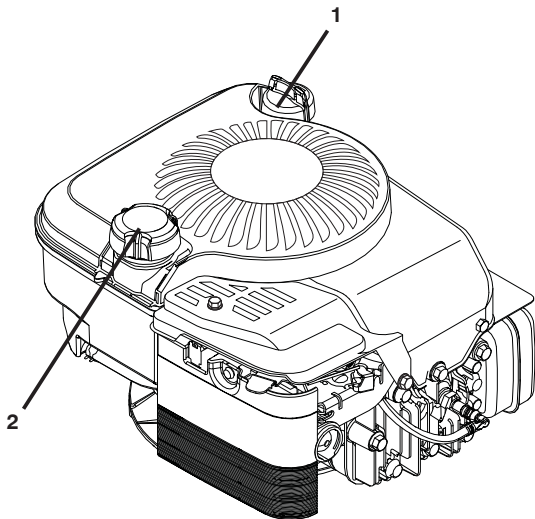

Figure 13
2. Remove dipstick from oil fill spout (Figure 13).
IMPORTANT: Fill fuel tank to bottom of tank filler neck. Do not overfill. Use fresh, clean, regular unleaded gasoline with a minimum of 87 octane. Do not mix oil with gasoline. Purchase fuel in quantities that can be used within 30 days to assure fuel freshness (Figure 13).